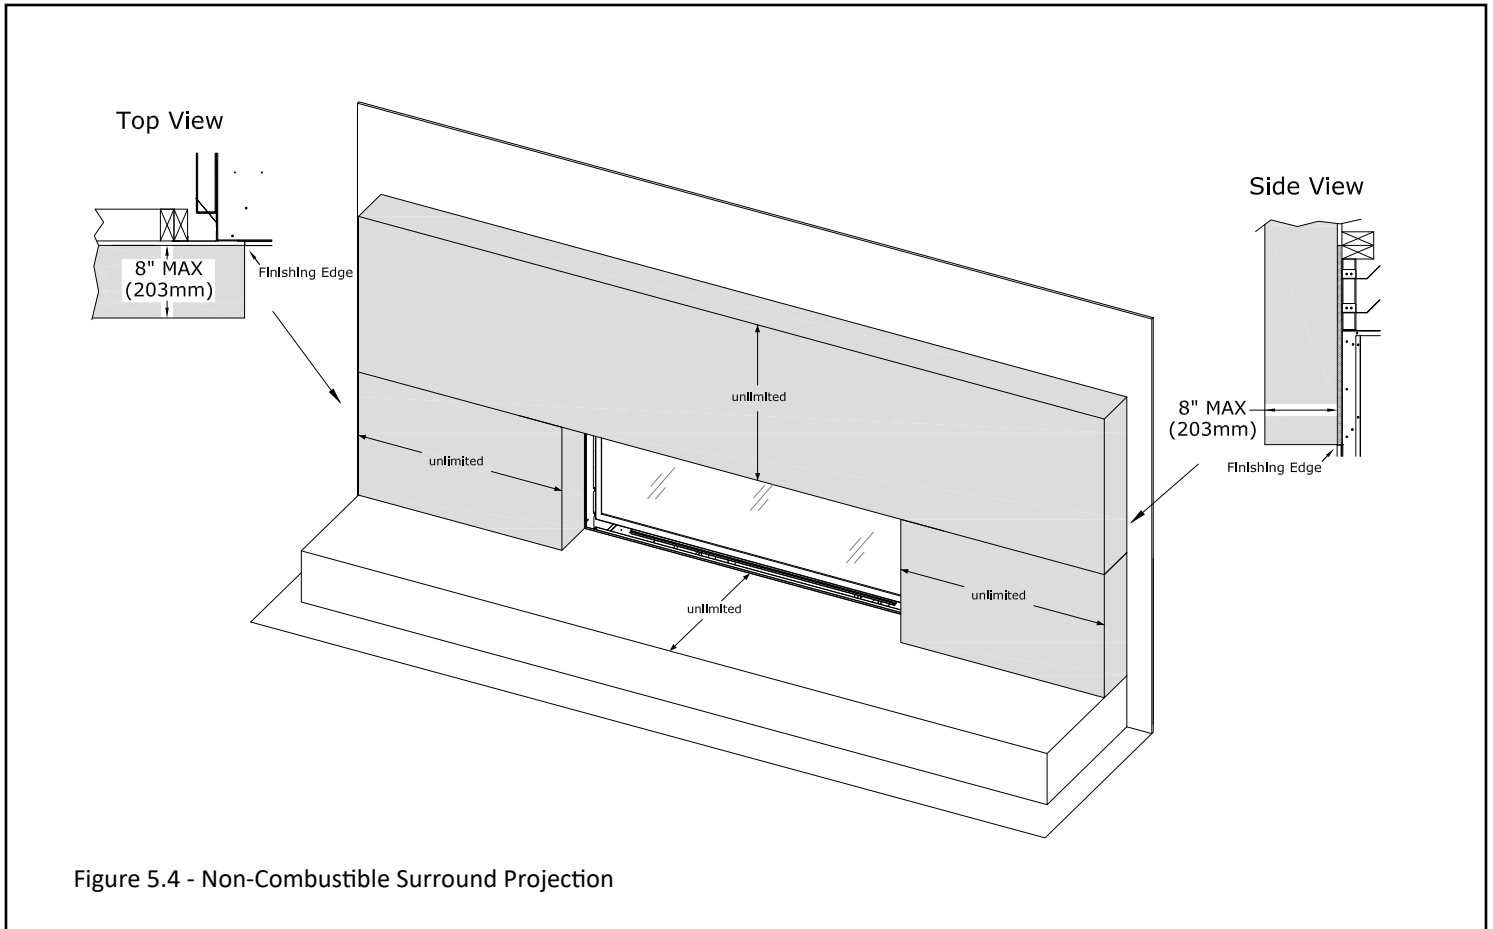

Figure 5.4 - Non-Combustible Surround Projection
- **Noncombustible Surround (top and sides of fireplace opening):** As referenced in FIGURE 5.4, the maximum of a 8" noncombustible surround can be installed flush at the side and top finishing edge of the fireplace.
Figure 5.4 shows a maximum of a 8" non-combustible surround is allowed 0" (0mm) from the fireplace finishing edge. The horizontal and vertical dimension of the surround is unlimited. Figure 5.4 shows the allowance of an unlimited hearth extension